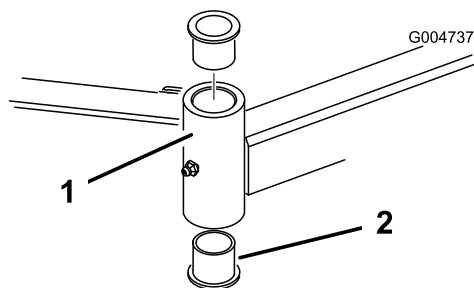

Figure 106
4. Insert a pin punch into the top or bottom of the mounting tube and drive the bushing out of the tube (Figure 106).